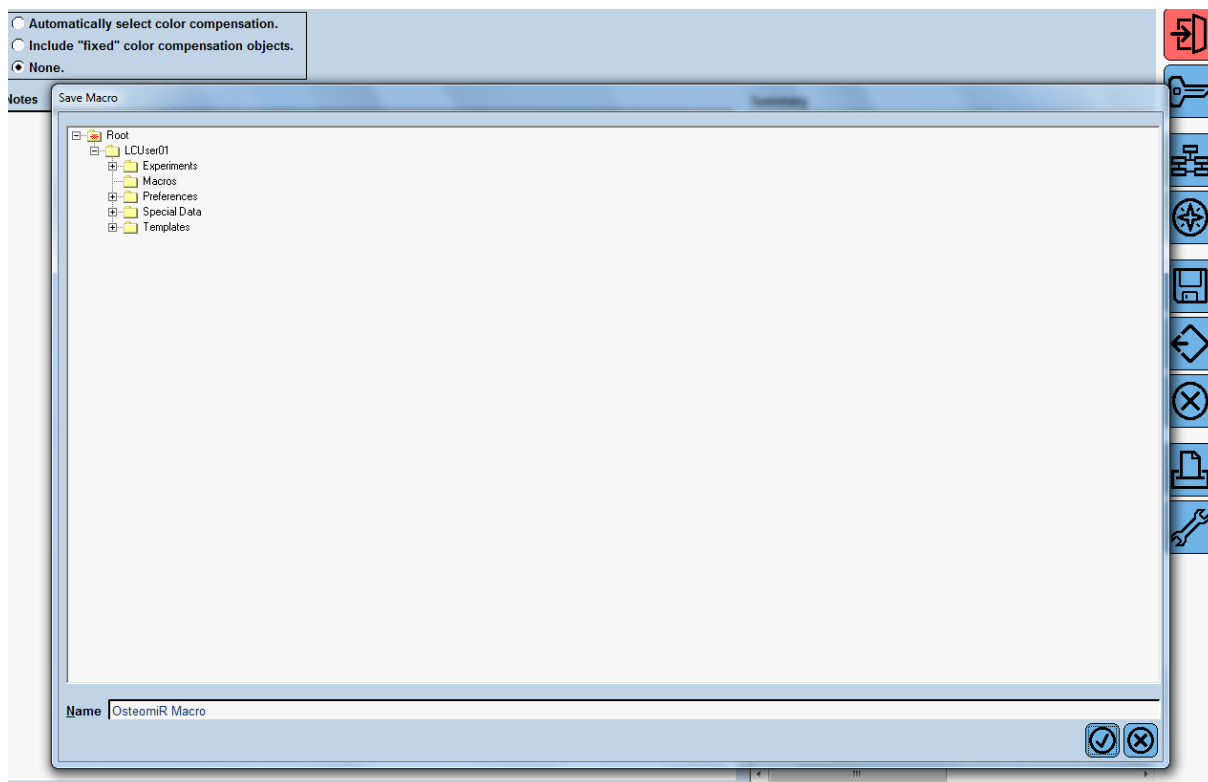
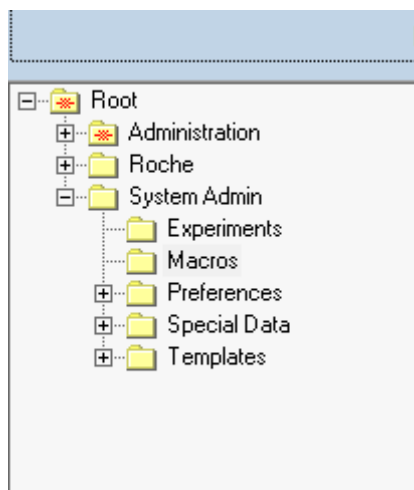
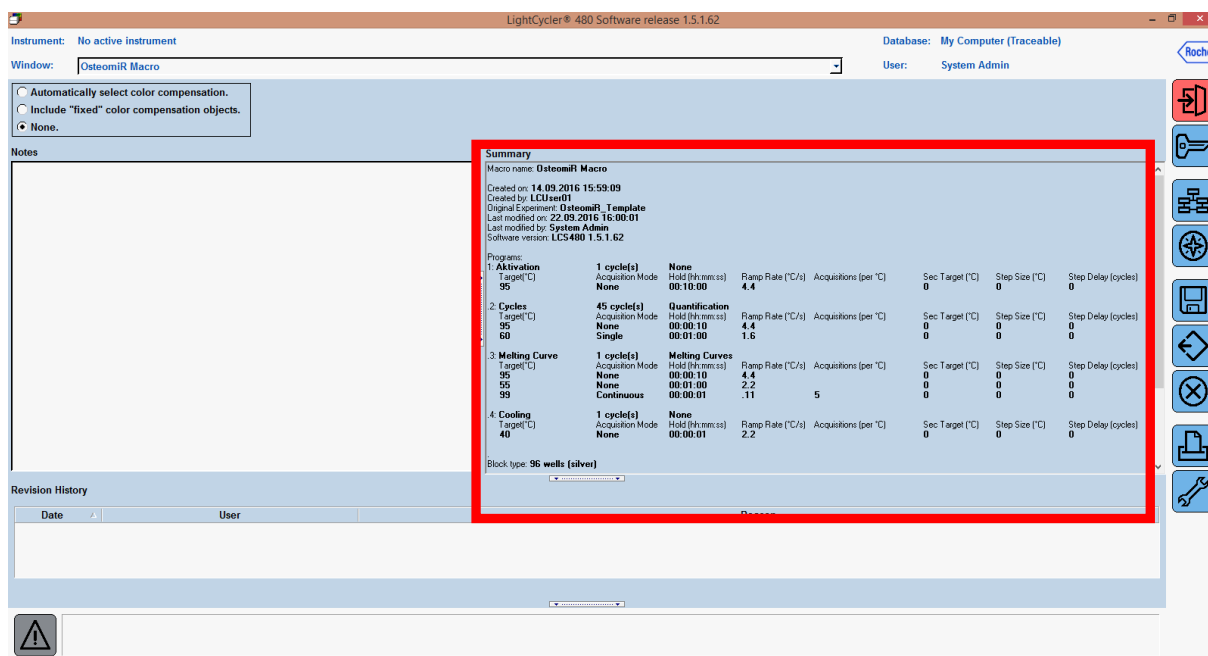

Figure 3: Select a directory (see also Figure 4) for saving the osteomiR™ Macro and confirm with
Figure 4: Proposed directory /Root/System Admin/Macros for saving the osteomiR™ macro in the LightCycler480 II software.
Figure 5: Overview of experimental settings deposited in the osteomiR™ macro (highlighted in red box).
6. An overview window displaying the experimental settings provided with the osteomiR™ macro appears (Figure 5). As only one reporter dye (SYBR green I) is used, options for color compensation on the top left are set to “none”. Click on “Save” button , the window shown in Figure 3 will appear. Choose the directory /Root/System Admin/Macros (Fig. 4), confirm with  and go back to the Overview window by clicking the “Overview” button .